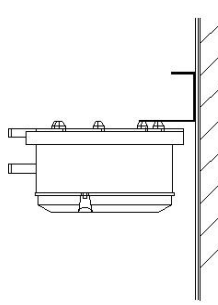

Fig. 3
- When installation as Fig. 3 is necessary, the switch value should minus about 10pa.